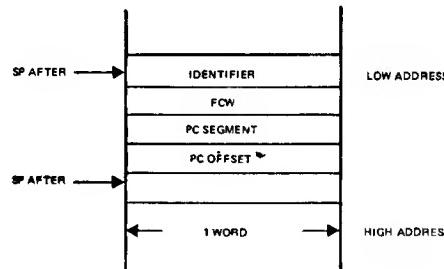

Fig. 2-5 Format of Saved Program Status
**Status Saving** - The old program status information is saved by being pushed on the system stack in the following order: Program Counter (PC: 16 bit offset followed by a word containing the 7 bit segment number); the Flag and Control Word (FCW); and finally the interrupt/trap service identifier word. The identifier word contains the reason or source of the trap or interrupt. For internal traps, the identifier is the first word of the trapped instruction. For segment trap or interrupts, the identifier is the value on the data bus read by the CPU during the interrupt-acknowledge or trap-acknowledge cycle. Figure 2-5 shows the format of the saved program status in the system stack.